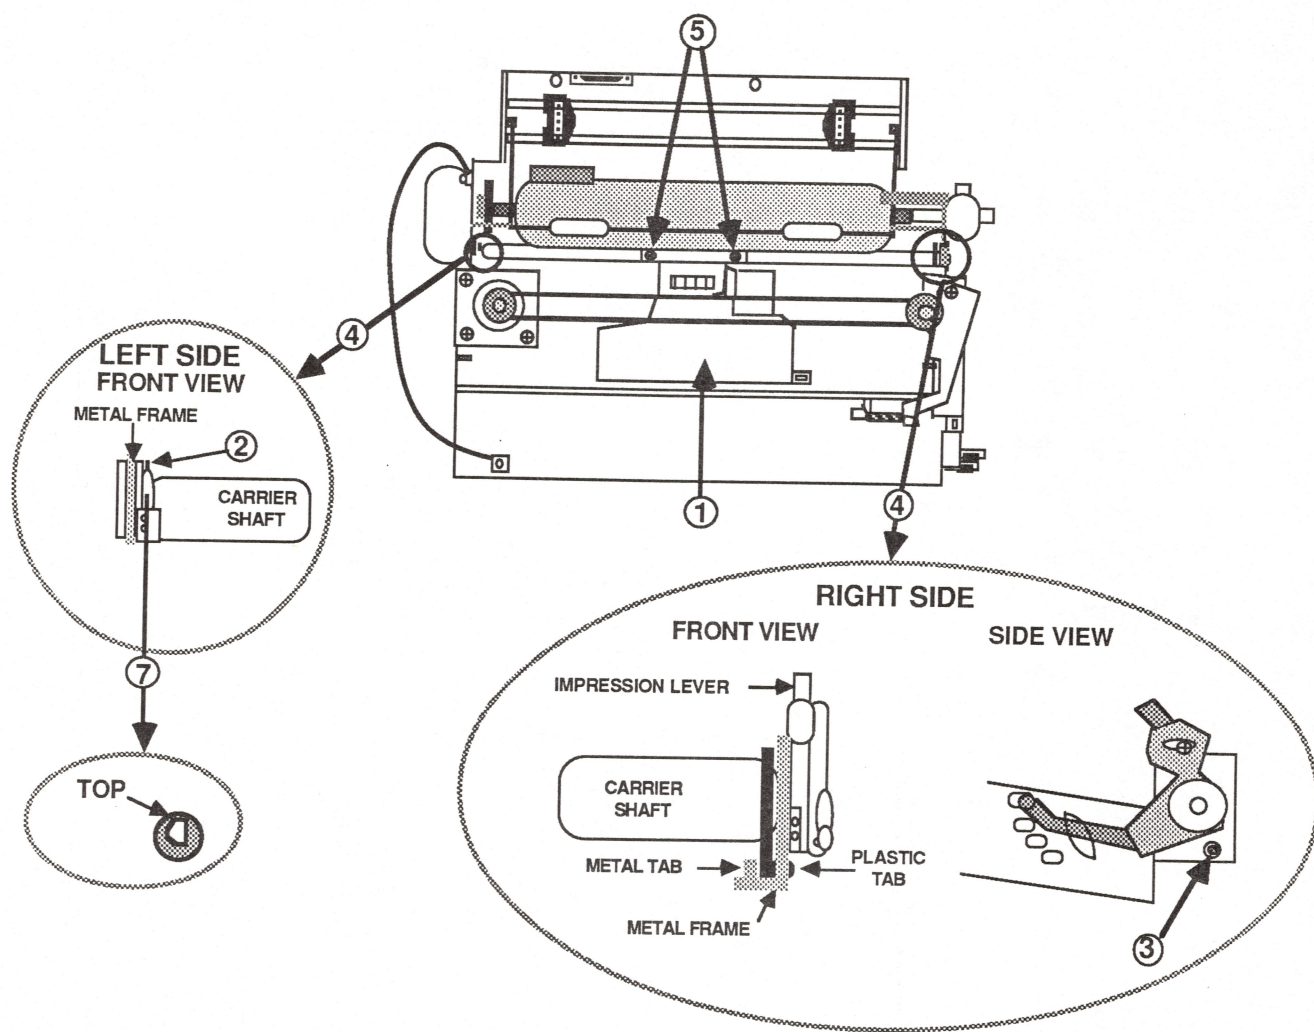

FIGURE 33
**NOTE:** Be sure to position it as shown in Figure 33, #7, with the smaller section as the top of the cam. Failure to do so will result in uneven printing intensity.
7. Position the carrier assembly so the tabs underneath the assembly (see Figure 33, #1) are in place.
8. Push back the tab (see Figure 33, #2) and slide the left side of the carrier shaft into place while making sure the right side is lined up.
9. Slide the right side of the carrier shaft into position, making sure that the tab is in the hole in the metal frame, and that the impression lever is in position (see Figure 33, #3).
10. Push the metal tab back towards the rear of the machine (see Figure 33, #4).
11. Verify that the impression lever is pushed forward all the way. Position the clear plastic paper guide (refer to **Section 4, Adjustments**) and replace the two screws (see Figure 33, #5).